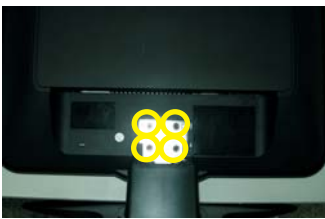

Fig.4
- Remove the screws as shown in Fig.4, then remove the base